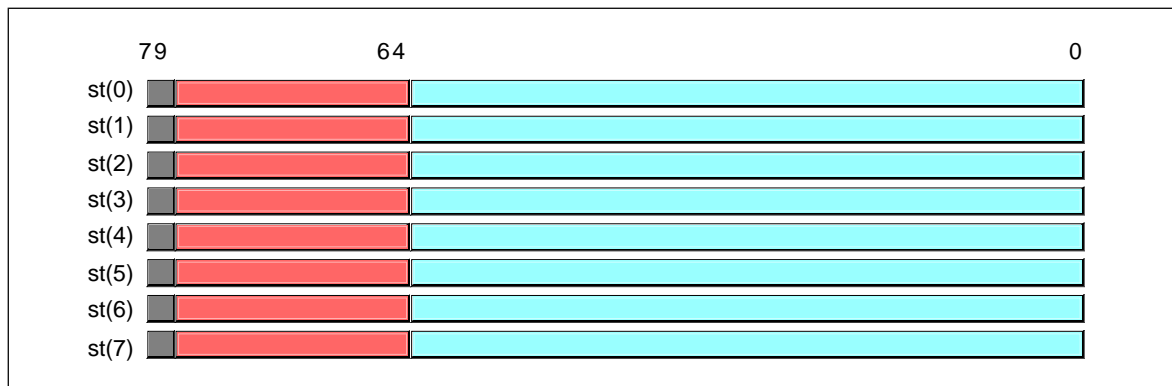

Figure 14.5 80x87 Floating Point Register Stack
The biggest difference between the FPU register set and the 80x86 register set is the stack organization. On the 80x86 CPU, the ax register is always the ax register, no matter what happens. On the 80x87, however, the register set is an eight element stack of 80 bit floating point values (see Figure 14.5). ST(0) refers to the item on the top of the stack, ST(1) refers to the next item on the stack, and so on. Many floating point instructions push and pop items on the stack; therefore, ST(1) will refer to the previous contents of ST(0) after you push something onto the stack. It will take some thought and practice to get used to the fact that the registers are changing under you, but this is an easy problem to overcome.